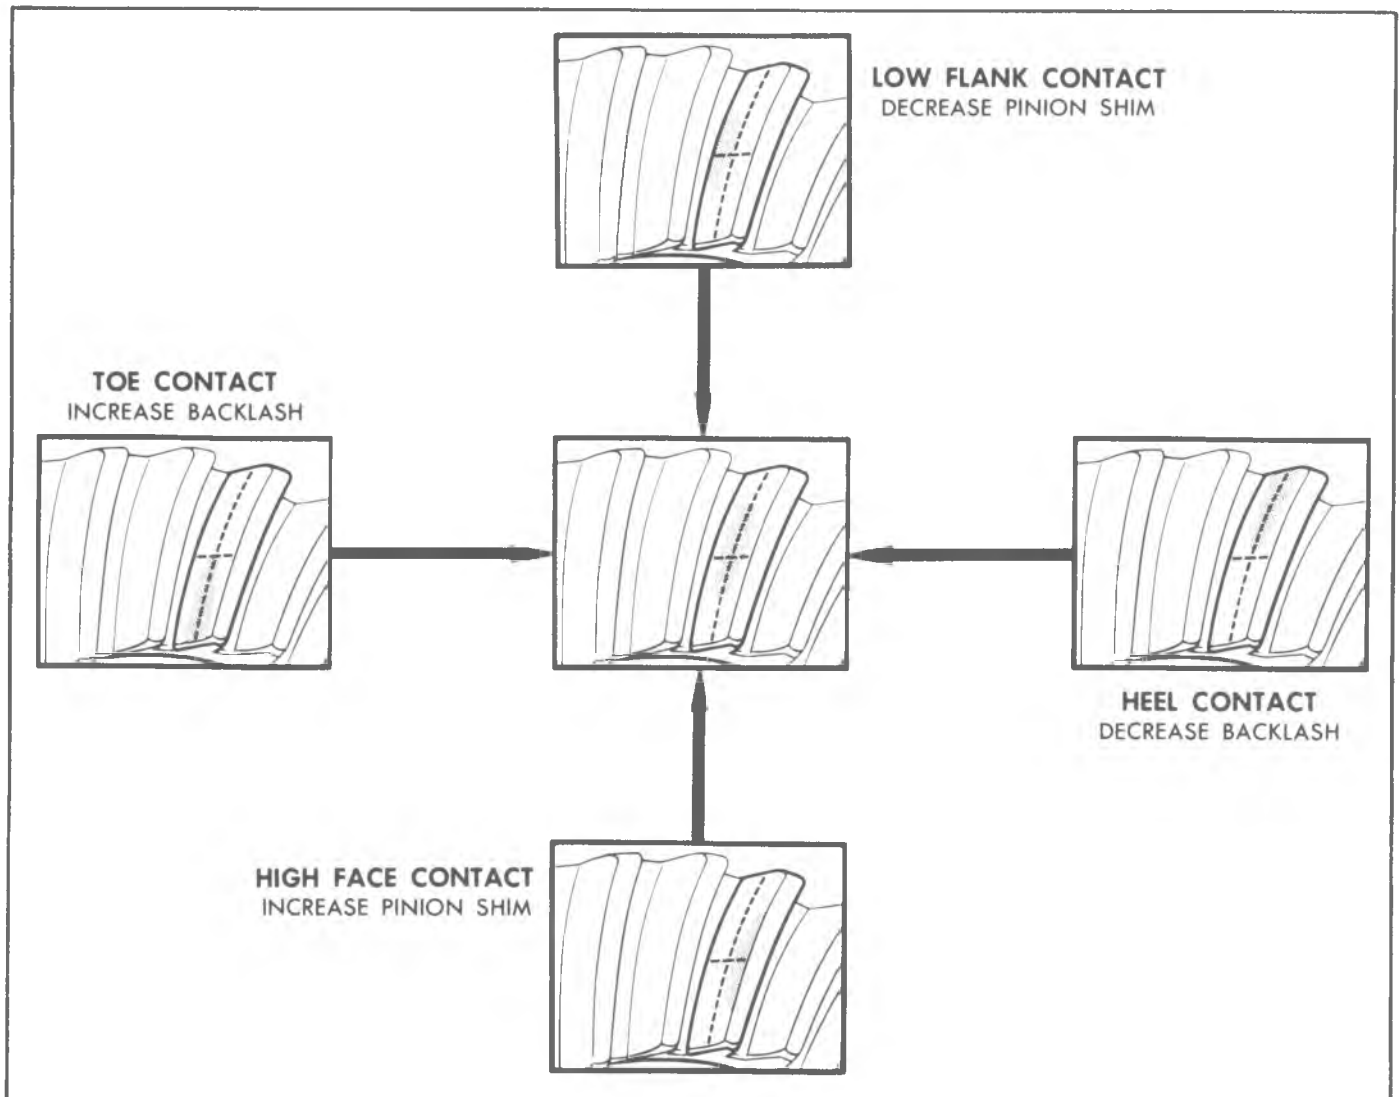

Fig. 25B--Gear Tooth Contact Pattern Check
5. Observe pattern on ring gear teeth and compare with Figure 25B.